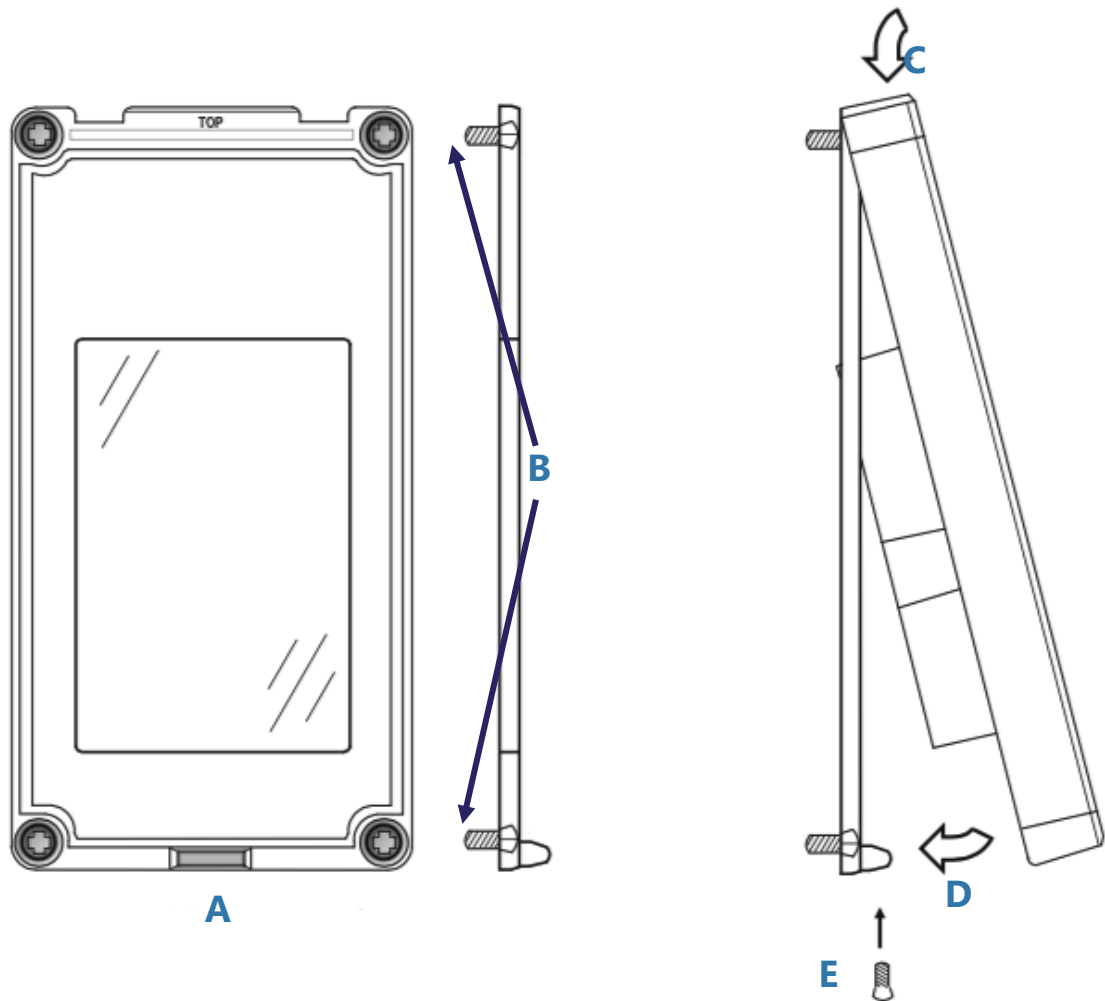

Figure 18: AFA4000 installation
2. Use 4 fixing screws to secure the mounting bracket to the front panel of the fume cupboard (A in Figure 18).
Make sure the 4 fixing screws are fully recessed into the counter-sunk fixing holes (B in Figure 18).
3. Place the AFA4000 onto the top of the mounting bracket and click it into place (C in Figure 18).
4. Push the bottom of the AFA4000 onto the mounting bracket (D in Figure 18).
5. Secure the AFA4000 to the mounting bracket using the fixing screw in the bottom face of the monitor (E in Figure 18).